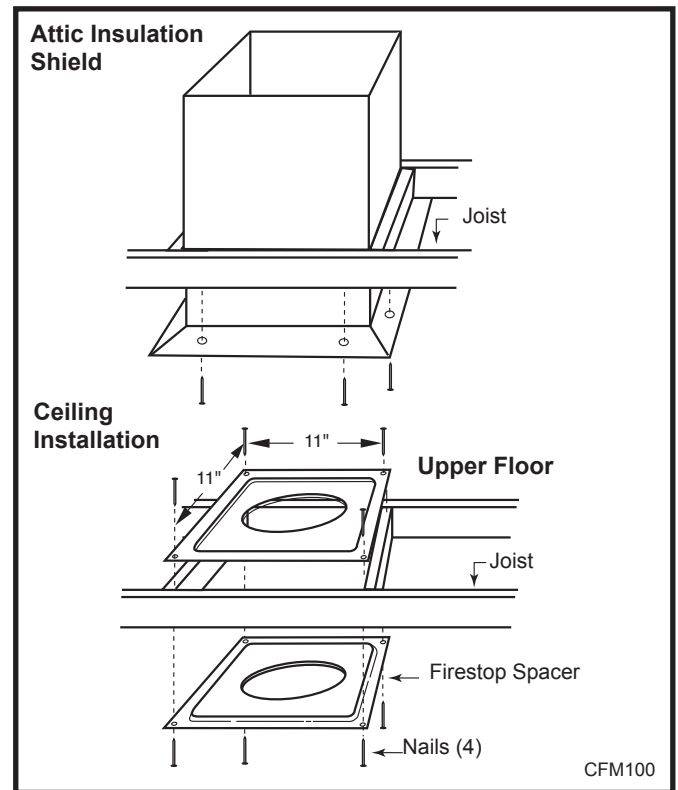

Fig. 34 Place firestop spacer(s) and secure.
6. Place firestop(s) #7DVFS or Attic Insulation Shield #7DVAIS into position and secure. (Fig. 34)
! If there is room above ceiling level, firestop spacer must be installed on both the bottom and the top side of the ceiling joists. If an attic is above ceiling level a 7DVAIS (Attic Insulation Shield) must be installed. (Fig. 34)